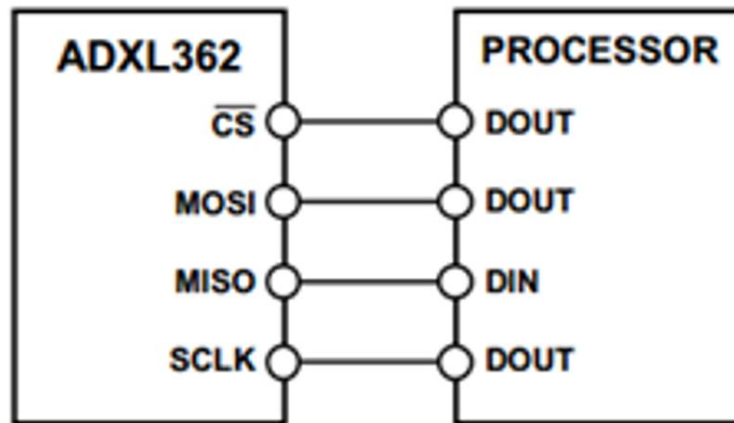

Figure 8: The physical connection of the ADXL362 as a slave connected to the master [4].
The SPI on the ADXL362 communicates with 4 wires that can be seen in figure 8. Because the ADXL362 is operating as a slave, when read data is sent to the master the MISO pin is set to logic low (0).